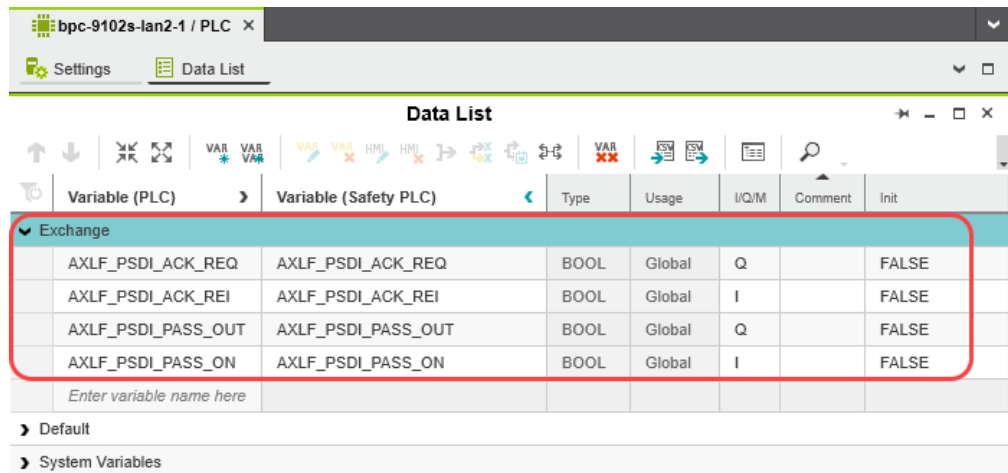

Figure 6-38 Exchange variables in the example
1. First create the “Exchange” variable group in PLCnext Engineer as shown in Figure 6-38.
In the example in Figure 6-38, the 4 variables/exchange variables will be created for the AXL F PSDI8/4 1F F-Device.
- Enter the names of the variables in the “Variable (PLC)” column in turn as shown in Figure 6-38.